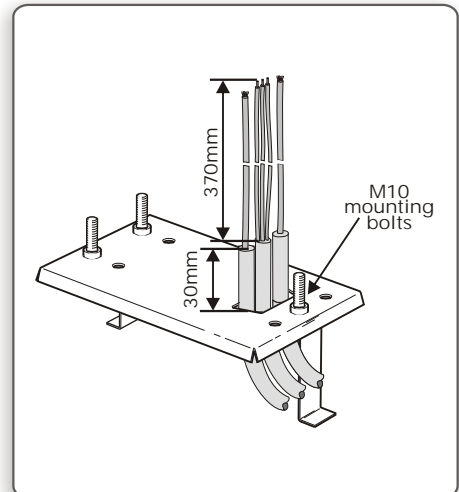

FIGURE 14
2. Make sure that all cables and conduits protrude at least 400mm above the baseplate once installed as shown in Figure 14.